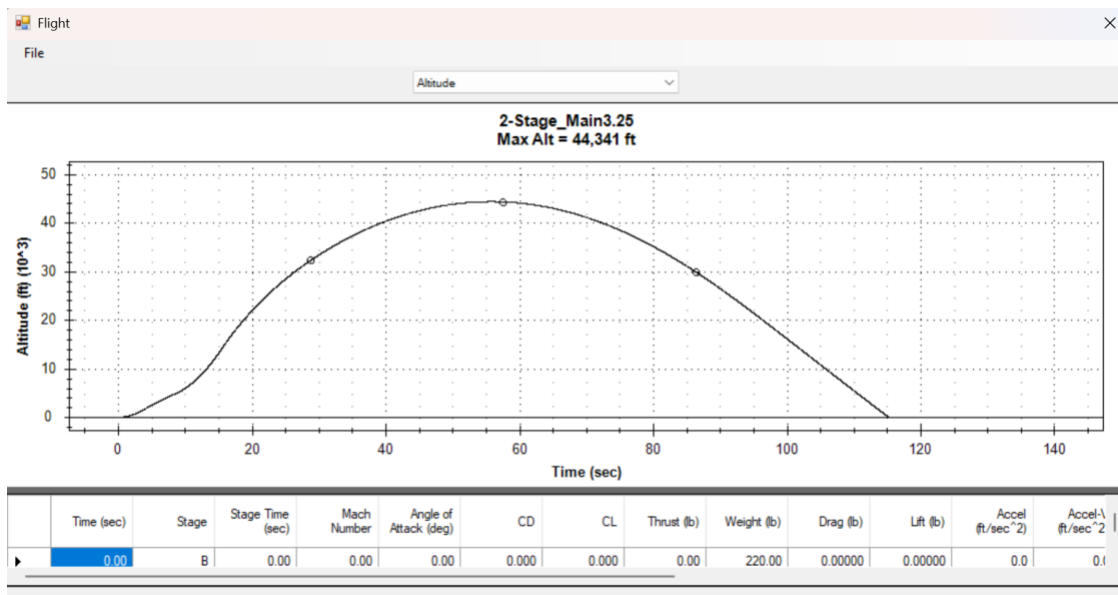

Figure 12: Sample flight simulation data.
8. Now, it is time to run the flight simulation. Under the *Flight simulations* tab, select [Simulations] → [Rerun All Simulations], then scroll to the right and press [View Data]. Data can then be exported from this screen and further analyzed. Example data is shown below in Figure 12.